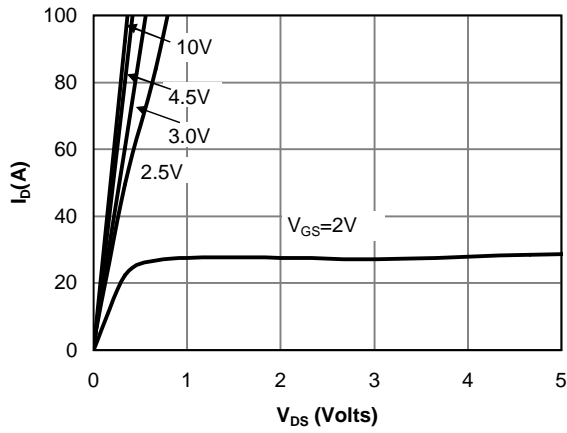

Figure 1: On-Region Characteristics
- E: The static characteristics in Figures 1 to 6 are obtained using $<300\mu\text{s}$ pulses, duty cycle 0.5% max.